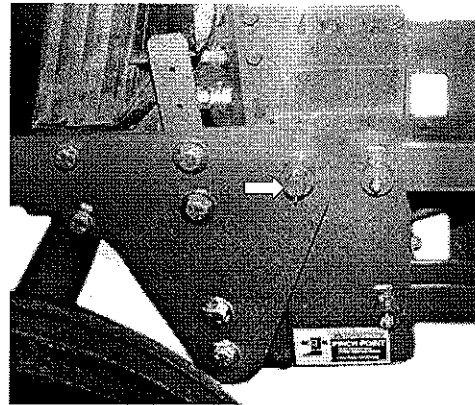

figure 2
2. Insert the pivot rod through the right-hand mounting plate, lift/swing assembly and left-hand mounting plate. Secure with 2 cotter pins (figure 2).